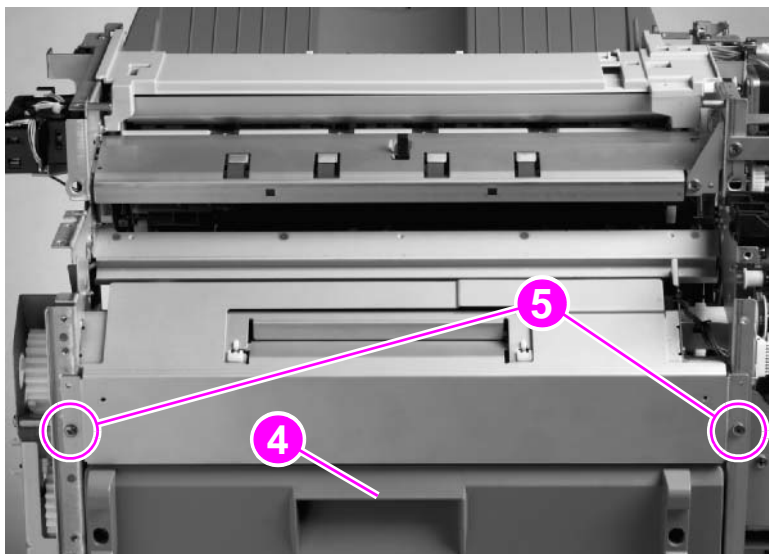

Figure 80.
- Make sure that you reinstall the metal frame panel (see figure 80 on page 117) before you reinstall the flipper assembly.